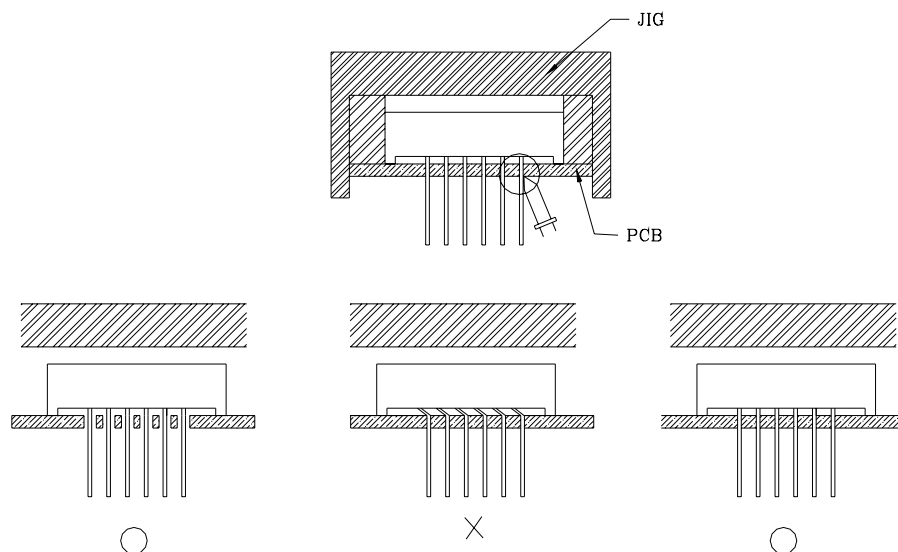

Fig.3
- 1) When mounting the Display by using a case, as shown Fig.3, ensure that the mounting holds on the PC board match the pitch of the PIN correctly-tolerance of dimensions of the respective components including the Display should be taken into account especially when designing the case, PC board, etc. to prevent pitch misalignment between the PIN and board holes, the diameter of the board holes should be slightly larger than the size of the PIN. Alternatively, the shape of the holes should be made oval. (See Fig.3)